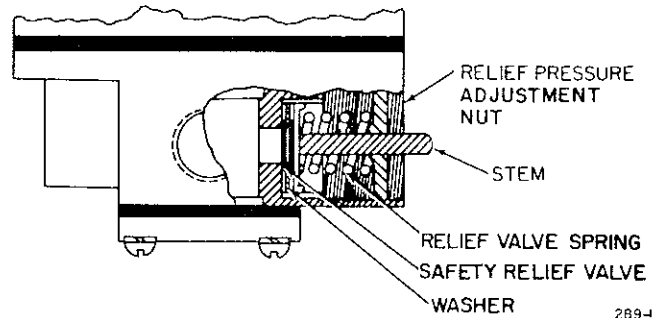

Fig. 4. Detail of Safety Pressure Relief Valve.
3. Safety relief setting will increase as the relief pressure adjusting screw (Fig. 4) is turned clockwise.